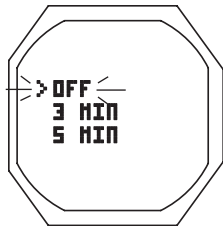

Fig. 51A - SET SAFETY STOP TIME
**Set Safety Stop**, information includes (Fig. 51A):